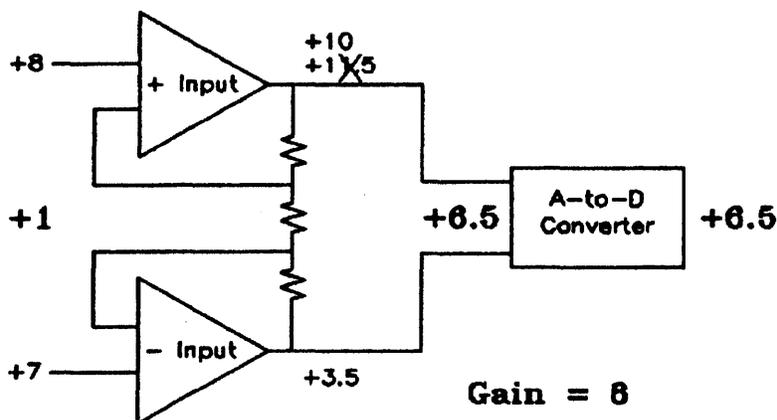

Figure 1-6. Common mode overrange at gain greater than 1
- 1) The voltage output from an input op amp can not exceed  $\pm 10$  volts, relative to system ground. For a gain of 1, this also means that the input voltage applied to the op amp can not exceed  $\pm 10$  volts, again relative to system ground. (The situation gets rather more complicated for gains greater than one; the formula for figuring the maximum input voltage is somewhat abstruse, involving various voltages, gains, and a couple of 2s. We won't get into the mathematics of it, but figure 1-6 shows an example of the results that you may see.) Exceeding this input limit causes a common mode overrange: the output of the op amp is clipped at its limit (+10 volts or -10 volts) and the overrange flag (the O bit in a base unit reading) is set to 1.
Figure 1-6 shows a subtler form of common mode overrange that you may encounter at gains greater than 1. This is because the programmable gain amplifier amplifies the difference between the + Input and - Input voltages before sending the result to the A-to-D converter. Even though the input voltages appear to be acceptable, the amplifier may try to boost them out of the acceptable range. In this case, the programmable gain circuit tries to boost the + Input voltage to 11.5 volts, but the output limit of the op amp keeps the voltage from exceeding +10 volts. The overrange flag (O bit) is set to one and the clipped voltage is sent to the A-to-D converter. The resulting value is incorrect.